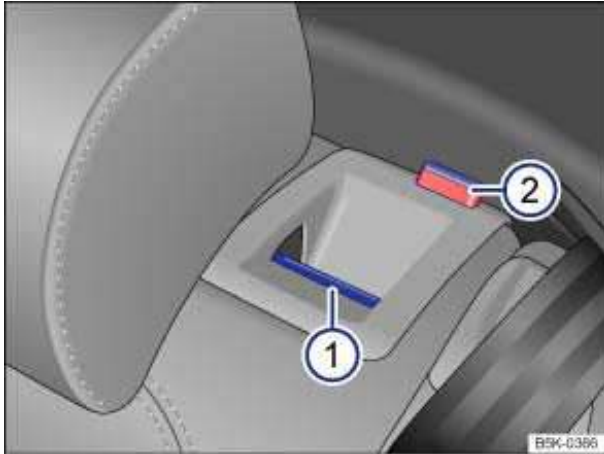

Fig. 87 Rear seat backrest: Release button 1; red mark 2.
- Pull the release button ⇒ fig. 87 \(1\) forward while folding the rear seat backrest forward.
- The rear seat backrest is unlocked when the red mark on the button ⇒ fig. 87 \(2\) is visible.